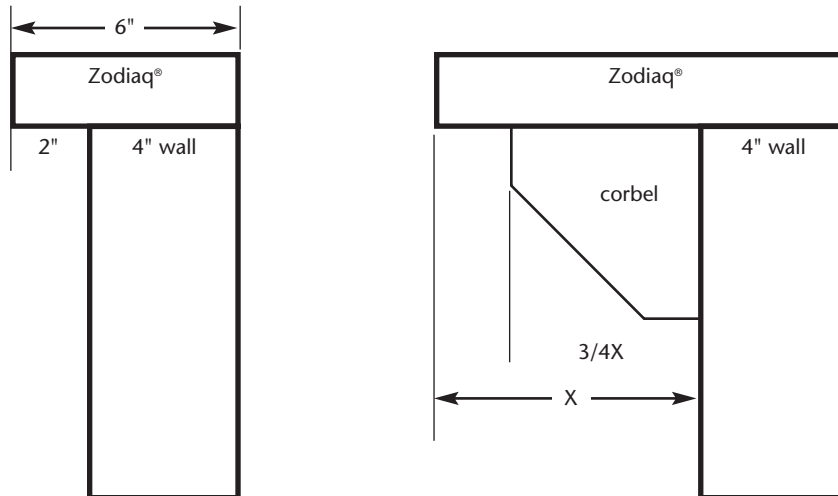

Figure 1
- Overhangs  $< 1/3$  the depth of the top [i.e., support wall is 4" (10 cm), total top is 6" (15 cm), overhang 2" (5 cm)], no additional support required. (Figure 1)
- For all other half-wall overhangs, corbels are required to support the overhang where the bracket depth is  $3/4$  of the overhang depth, and spacing is a maximum of 36 inches. Corbels should be placed at wall studs. (Figure 1)